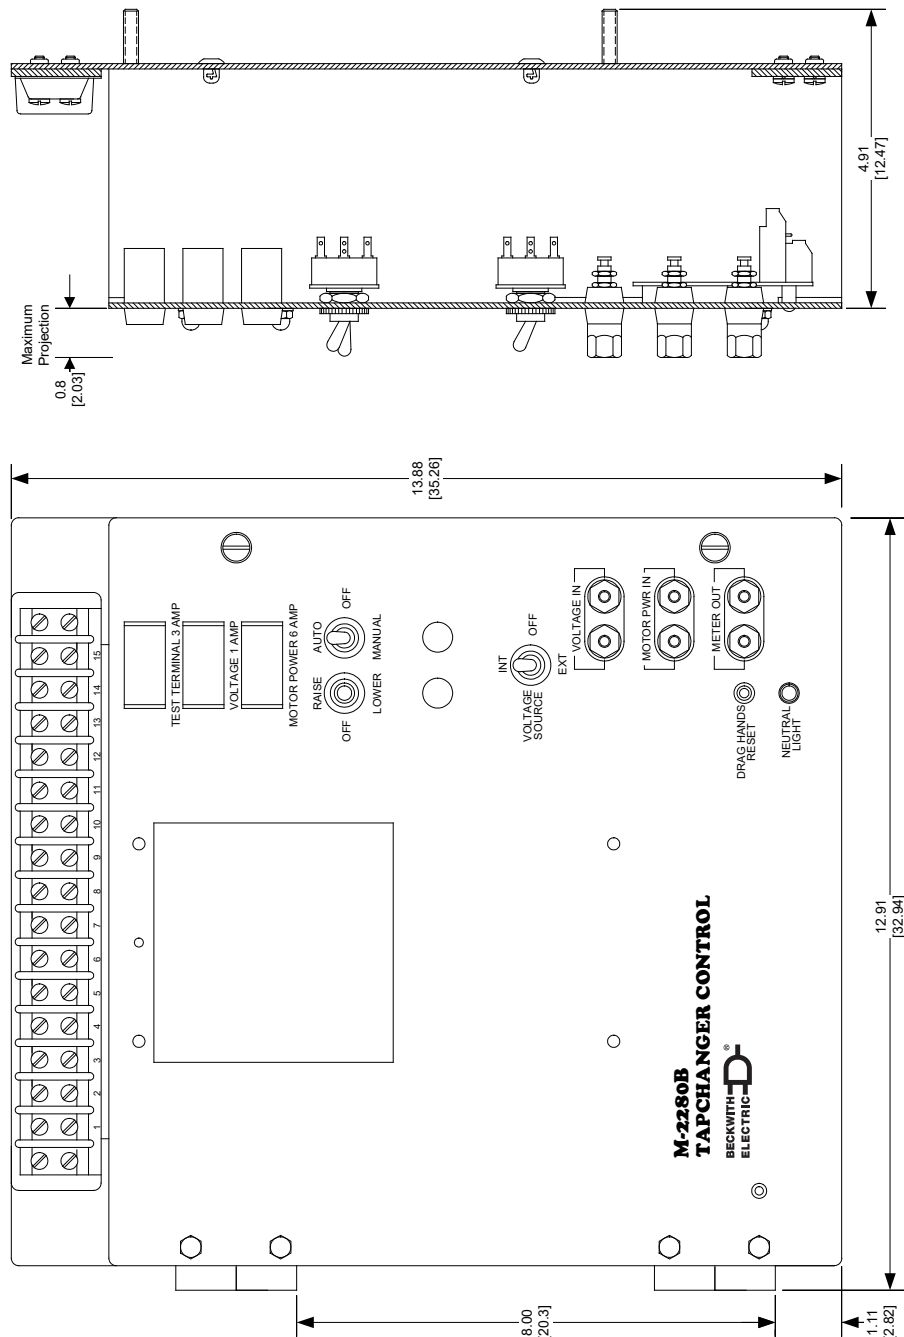
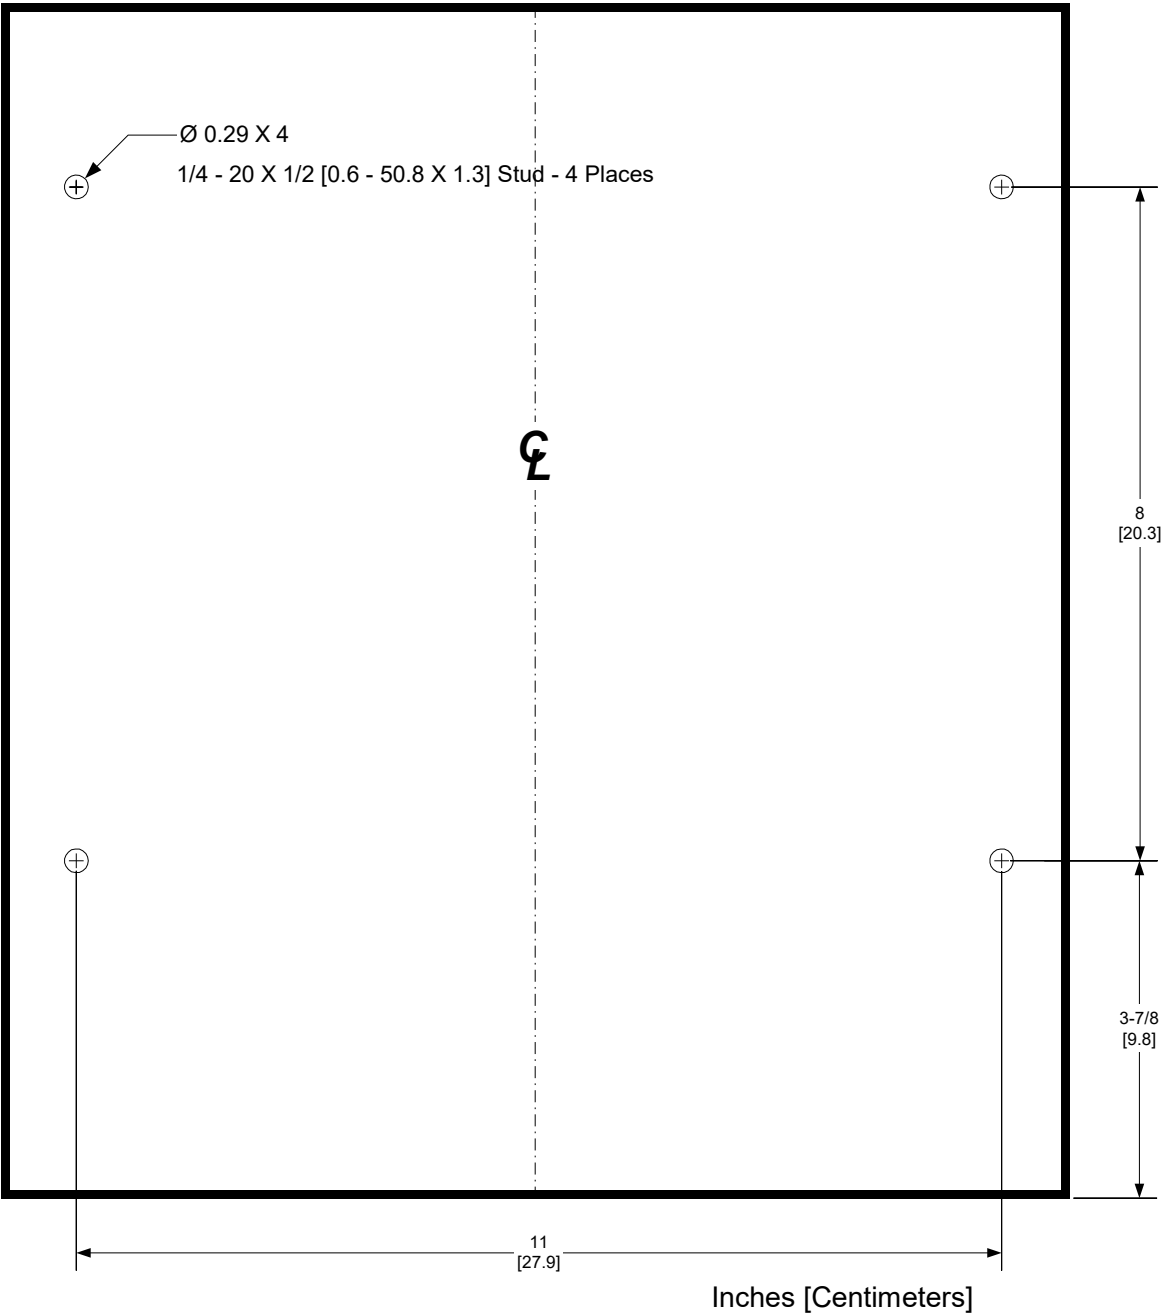

Figure 9 Outline Dimensions
Figure 10 M-2280B Hole Drill Dimensions
Refer to Figure 9 for outline dimensions; refer to Figure 10 for the hole drill dimensions of the M-2280B's side panel, if needed.
1. Install the M-2280B using four studs in an 8" x 11" pattern that matches the original mounting pattern of the G.E. control. Refer to Figure 9 for outline dimensions; refer to Figure 10 for the hole drill dimensions of the M-2280B, if needed.